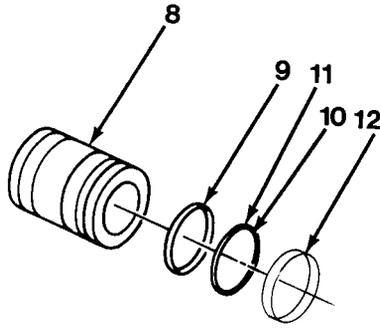
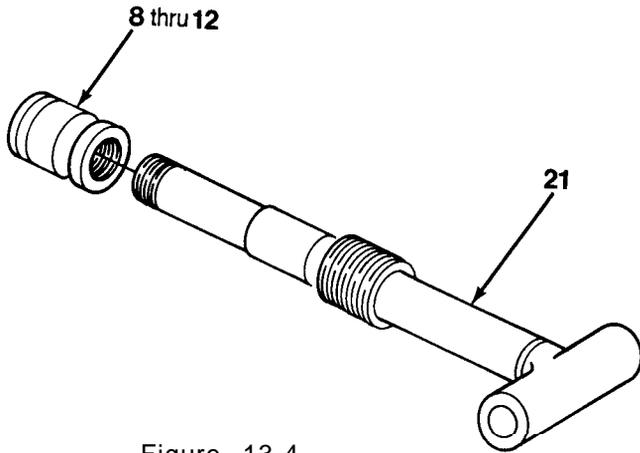

Figure 13-5
Figure 13-4
6. Install O-ring (10) and piston seal (11) on piston (8, Figure 13-5).
7. Install piston ring (12) and wear ring (9) on piston (8).
8. Install items 8 thru 12 as an assembly on rod assembly (21, Figure 13-4).